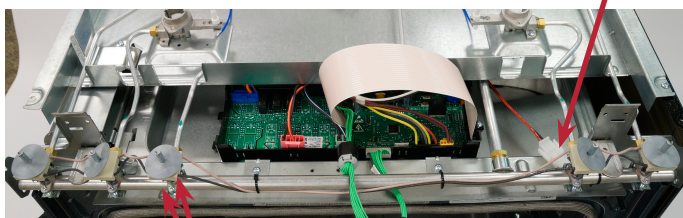

Figure 10
5. Remove the igniter switch assembly (all switches are serviced as one piece). Figure 10